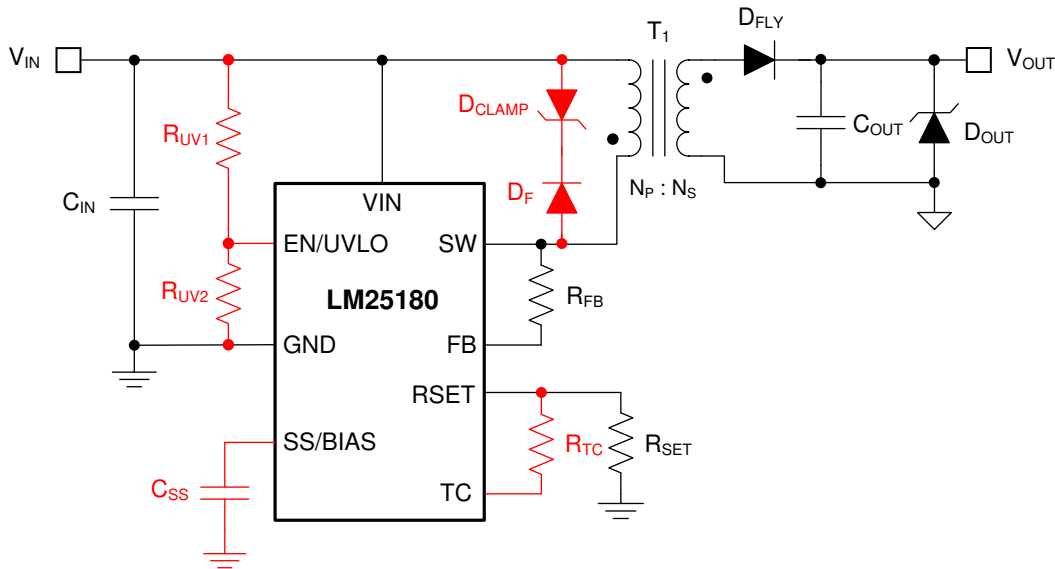

Figure 19. LM25180 Flyback Converter Schematic (Optional Components in Red)
To minimize output voltage regulation error, the LM25180 senses the reflected secondary voltage when the secondary current reaches zero. The feedback (FB) resistor, which is connected between SW and FB as shown in 图 19, is determined using 式 8, where  $R_{SET}$  is nominally 12.1 kΩ.